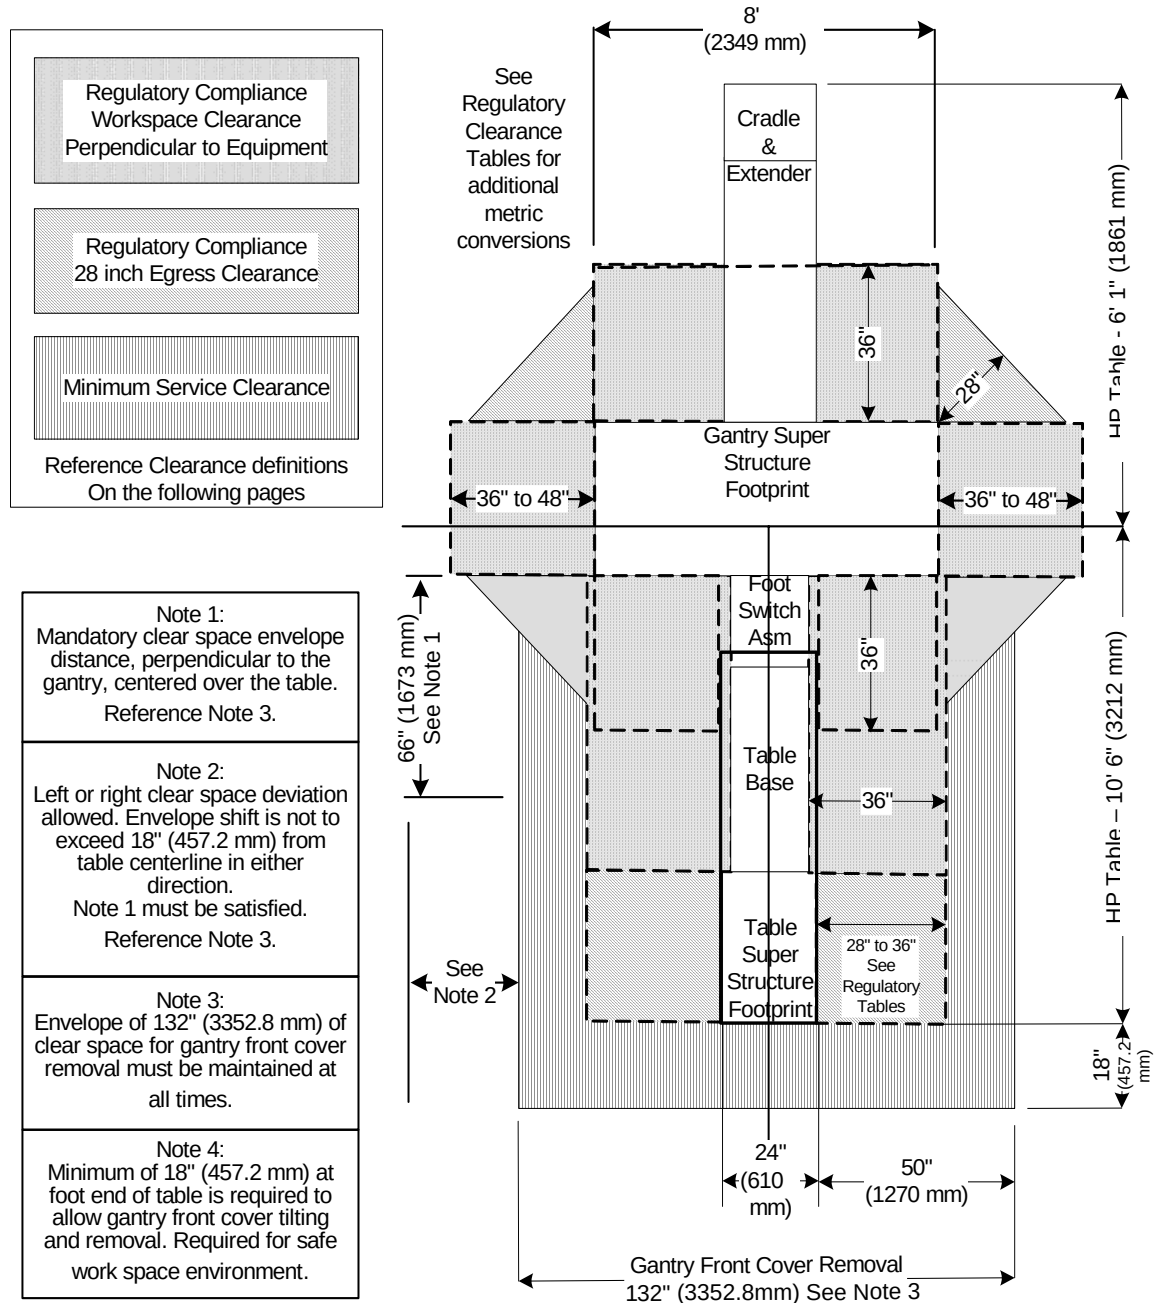

Figure 4-4 Minimum Service Clearance
- Gantry front cover removal requires the use of the "Tilting Cover Dollies". These dollies allow the Service Engineer to separate the cover from the Gantry, tilt the cover 90 degrees, roll the cover to the foot end of the Table, and then tilt the cover an additional 90 degrees such that the front cover is now upside down relative to the normal system mounted condition. Figure 4-4 illustrates the minimum clear space required to achieve this operation of 3,200.4 mm (126 in.). The Gantry front cover must be removed to a position that satisfies the minimum regulatory clearances.
- The Gantry rear cover, with service dollies installed, requires a width 2660 mm (104 ft, 7 in.) and a depth of 596 mm (23 ft, 5 in.) of clearance for removal. Sufficient space must be calculated to move the cover either straight back or to a side of the Table to satisfy the minimum service clearance shown in Figure 4-4. This means the rear cover cannot violate the workspace on the rear or either side of the Gantry.